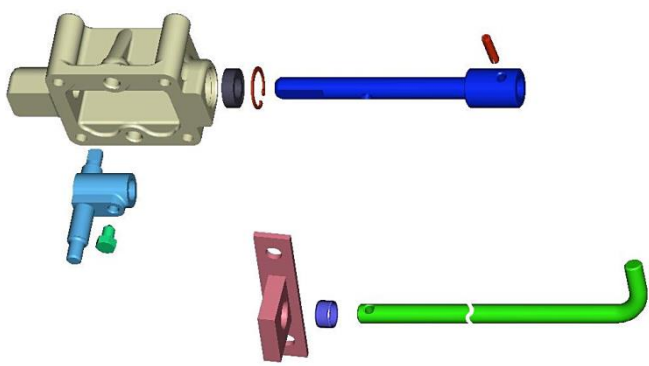

Fig.5-33 Main shift lever linkage
- b. Sub assemble the shifter stay,spring, and steel ball(Fig.5-33) and install the sub-assembly on the front transmission case(Fig.5-34).